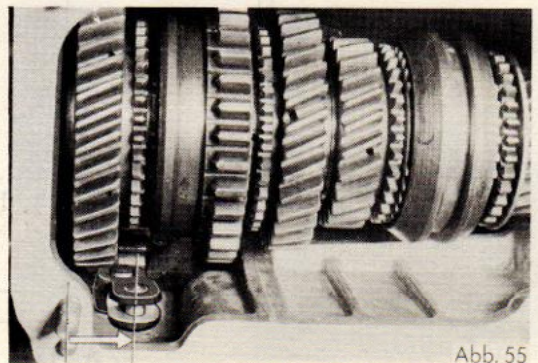

Abb. 55
49. Smear selector head joint with jointing compound and stick to gear-box casing. Fit selector head to gear-box, first sliding double lever to input end to ensure engagement of reverse gear selector fork in double lever (Fig.55).